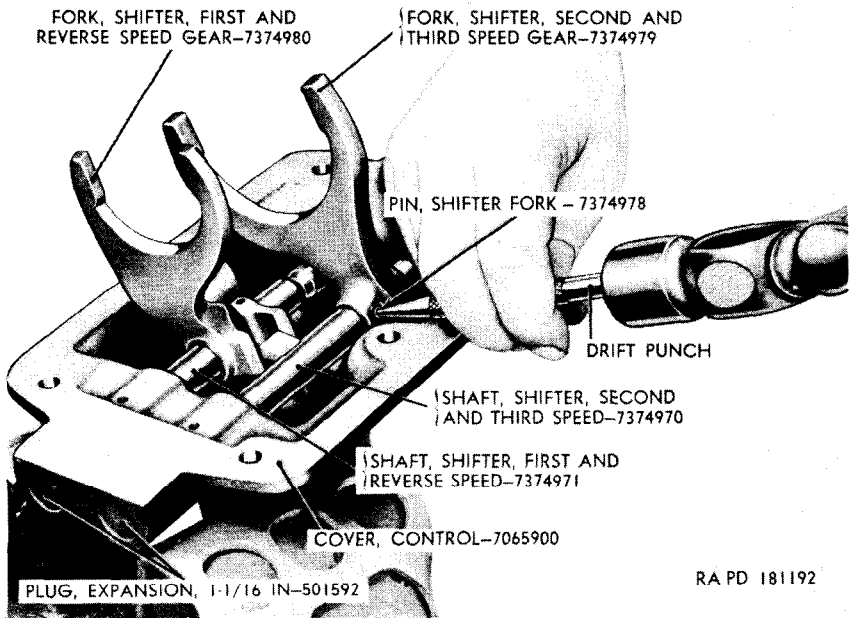

Figure 56. Removing shifter fork pin from shifter shaft.
b. Remove Shifter Fork Pins. Using a suitable drift, drive out two shifter fork pins (fig. 56) which secure the second and third speed gearshifter fork and first and reverse speed gearshifter fork to their respective shifter shafts.
c. Remove Shifter Shafts. Unscrew the two pipe plugs (D) from end of transmission control cover (T). Slide the second and third speed shifter shaft (N) and first and reverse speed shifter shaft (Q) out of shifter forks (A and V) and control cover (T) and lift the two shifter forks out of cover.